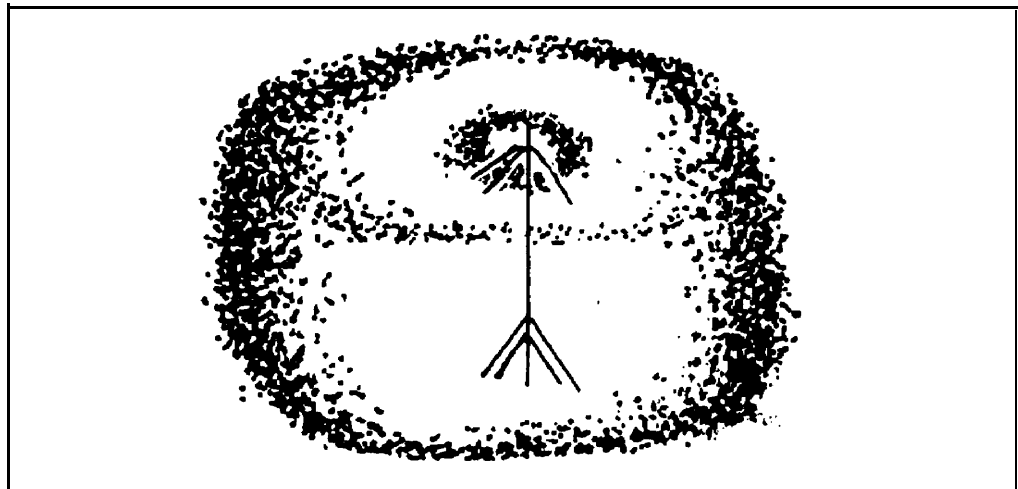

Figure D-6. Omnidirectional antenna pattern.
(1) *Omnidirectional.* An omnidirectional antenna radiates radio energy in a circular pattern so all directions on the ground receive an equal amount of radiation (Figure D-6). The most common omnidirectional antenna is the whip. Other examples are the quarter-wave vertical (RC-292, OE-254) and the crossed dipole (AS-2259). The omnidirectional antenna radiates and receives energy equally well in all compass directions. This antenna is used when it is necessary to communicate in separate directions at once. However, it is also more susceptible to interference from all directions.